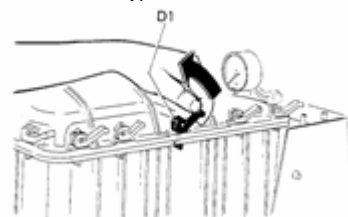

Fig. 26
12. Separate the bowl from its cover, releasing the fastening D1 by pulling them upwards as shown in fig.26.